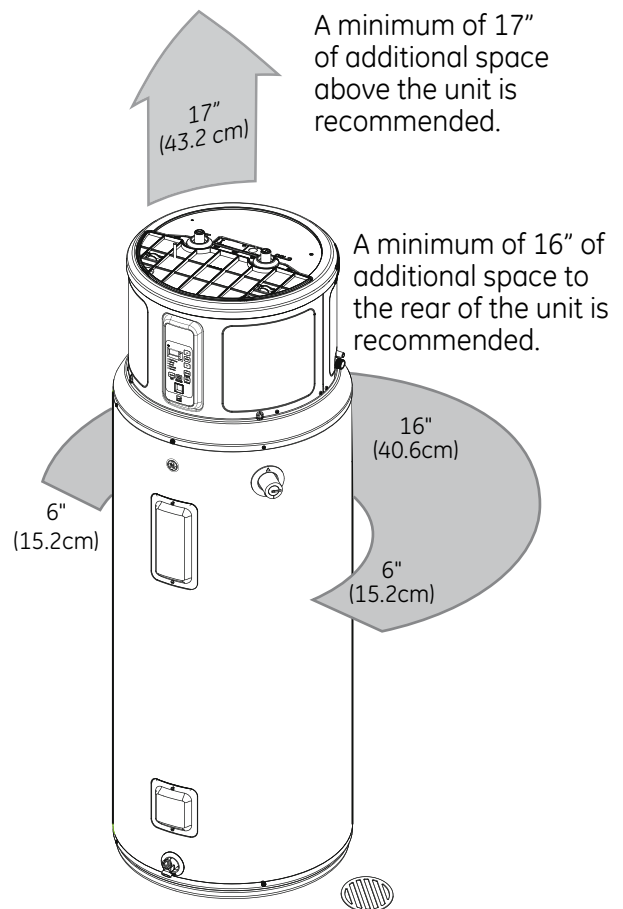

Figure 1
- The Heat Pump Water Heater Ducting Kit requires additional space around the water heater to allow for proper installation of the kit (see Figure 1). Installed Heat Pump Water Heaters may have to be reinstalled to meet minimum clearance requirements.
- It is recommended that the rear of the Heat Pump Water Heater be faced away from any walls to allow for easier installation of the OUTLET adapter and OUTLET duct work. In the event that this is not possible, a minimum of 16" of additional space to the rear of the water heater and 17" of additional space above the water heater (not including inlet and outlet) is recommended to properly install the ducting kit (see figure 1).